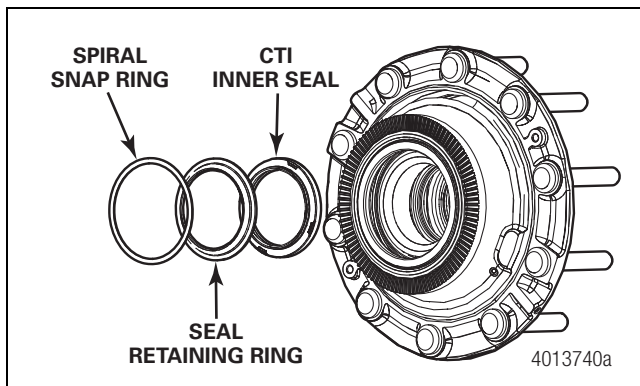

Figure 16.5
4. Install the inner CTI seal retaining ring and spiral snap ring. Figure 16.5.